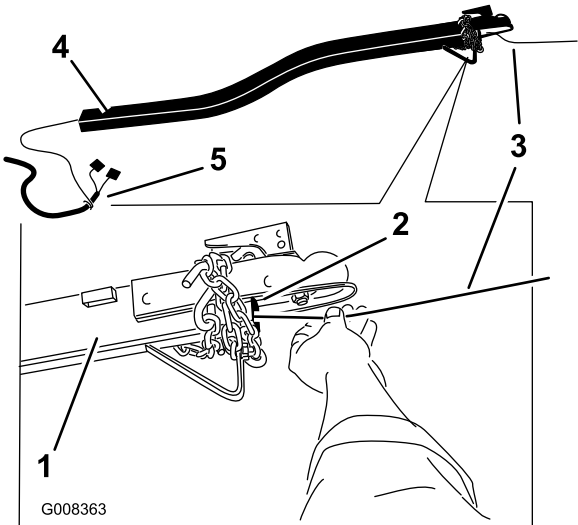

Figure 2
2. Feed the wire through the length of the tongue so a portion of the wire is visible at both ends (Figure 2).